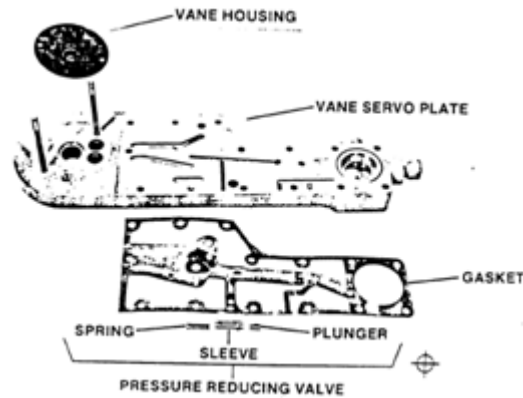

Figure 5-15. Vane Servo Plate
15. Remove vane servo plate and gasket, along with pressure-reducing valve sleeve, plunger, and spring from the column (Figure 5-15).